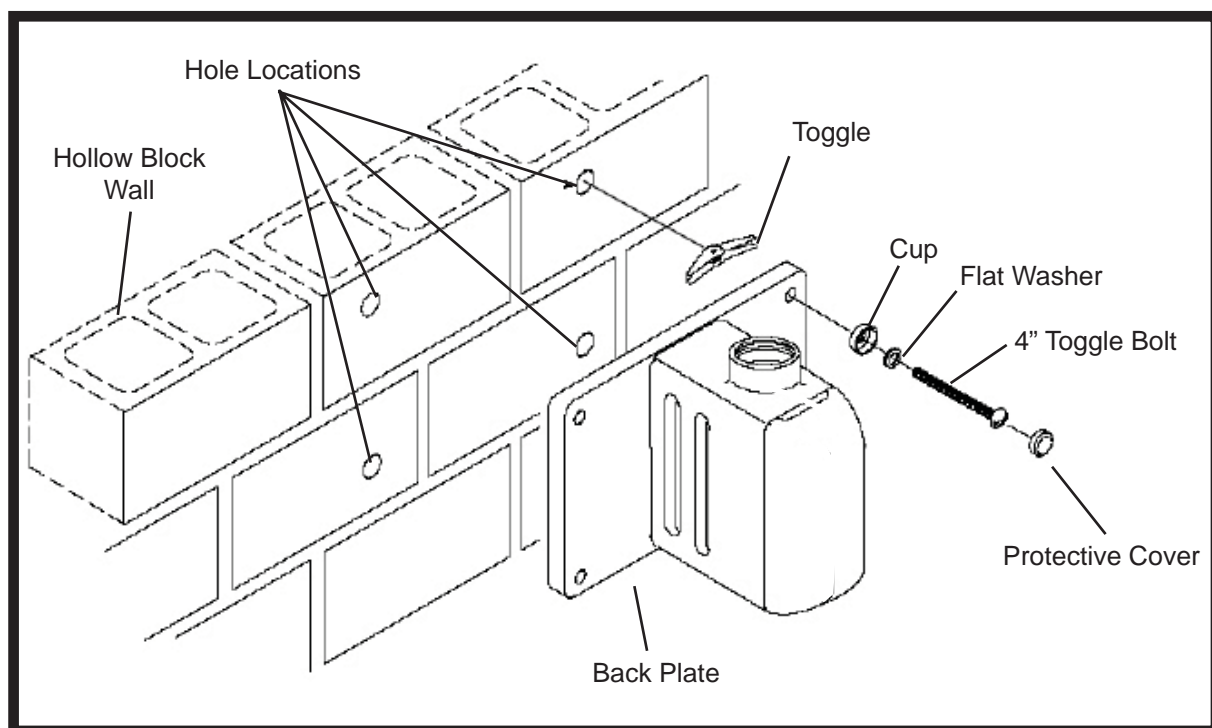

Figure 4-6. Base Plate Installation on Hollow Block Walls
For securing the Wallmount Model to construction using a hollow block wall, toggle bolts must be used. Use the four (4) 3/8" X 4" toggle bolts provided. See Figure 4-6.